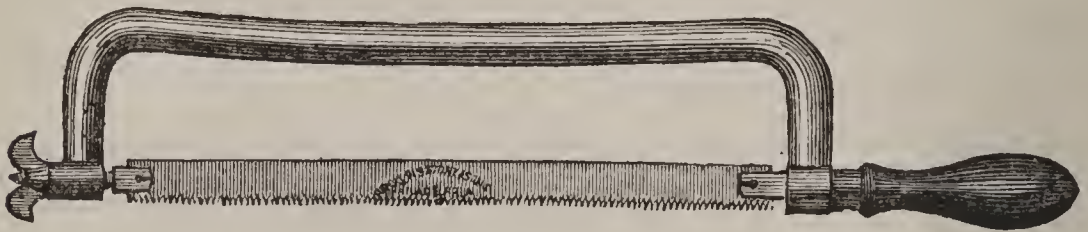

FIGURE 6.
*Hack Saw.*—A hack saw shown in Fig. 6, with iron frame, to hold a blade of eight or ten inches in